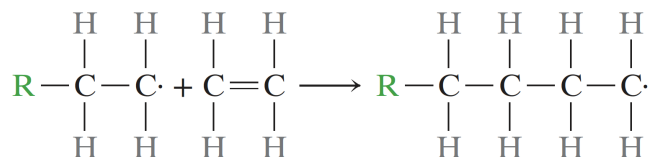

Figure 4: Propagation of the addition polymerisation process.
2. **Propagation:** The addition reaction continues with sequential unsaturated monomer units joining the polymer chain through the reaction of free radicals with the double bond, as seen in Figure 4.